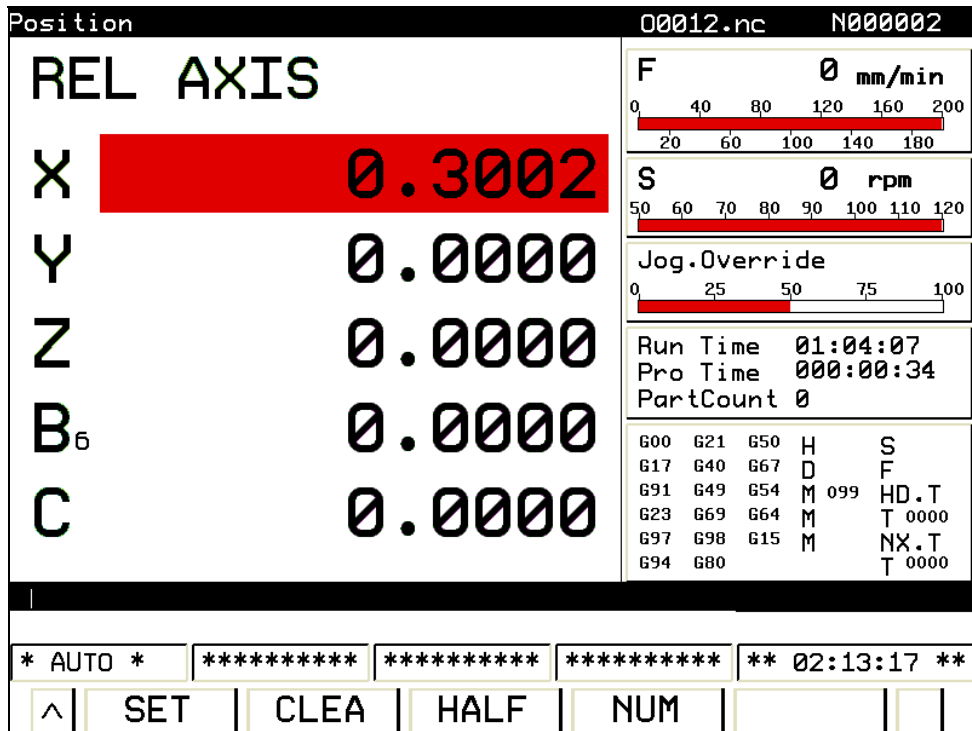

Fig.3-2 Relative coordinate
- 2) Relative POS.: relative interface displays current tool position on relative coordinate system. It will be called “Relative coordinate” hereafter. Press soft key **【REL.】** to enter sub-interface of relative interface (see Fig.3-2).